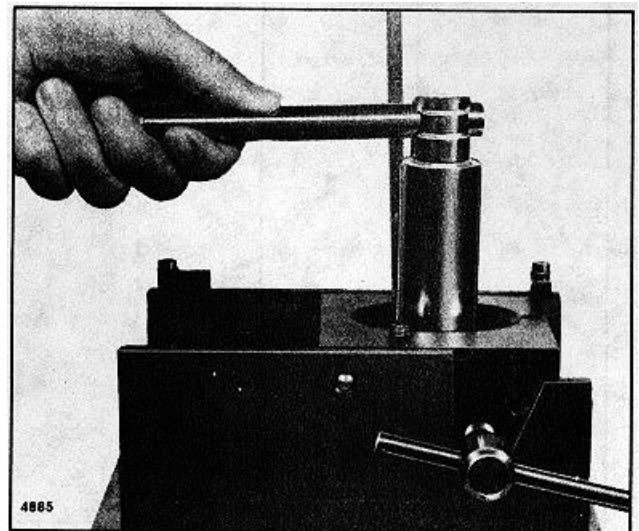

Fig. 25. Removing Injector Nut
4. Invert the fixture and, using socket J 4983-01, loosen the nut on the injector body (Fig. 25).